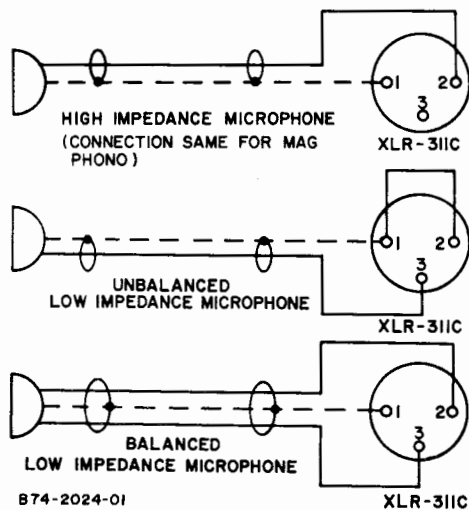

Figure 2—Wiring Microphone Cable Connector
**HIGH IMPEDANCE MICROPHONES:** The amplifier is shipped in a configuration for direct connection of high impedance microphones (50k ohms) to the two MIC input receptacles of the amplifier. The microphone lead should be a single-conductor shielded cable under 35 feet long and terminated in a Cannon XLR-311C connector (Bogen Part No. 85-0124-01) as shown in figure 2.
Jumpers with push-on connector lugs are mounted on the printed circuit board assembly for use in converting the MIC input channel circuits. See note 5 on the schematic diagram, figure 4. To convert MIC 1 for unbalanced low impedance use, connect jumper between pins 14 and 15; to convert MIC 2, connect jumper between pins 17 and 18. As shown in figure 2, make and connect a jumper between terminals 1 and 2 of the microphone plug. Connect the conductor lead of the microphone to pin 3 of the plug.
**BALANCED LOW IMPEDANCE MICROPHONES:** Low impedance transformer accessories are required to permit the amplifier to accept inputs from microphones rated at 50, 200, or 500 ohms. Use a two-conductor shielded cable for the microphone lead, terminated in a Cannon XLR-311C connector, as shown in figure 2. Before connecting microphone, insert appropriate plug-in transformers and modify connections to transformer sockets as described in the Accessories Section. Plug-in transformers are furnished with holddown springs which should be used to keep the transformer in place. Locate 2 square holes on either side of transformer receptacle, place spring directly over transformer and lock ends into these holes.
**MAG PHONO:** The output of a phonograph employing a magnetic cartridge may be connected to the MIC 2 input receptacle on the rear panel. Use a single-conductor shielded audio cable terminated in a Cannon XLR-311C connector as shown in figure 2 (connections same as high impedance mic). A magnetic tape head may also be connected in this manner.